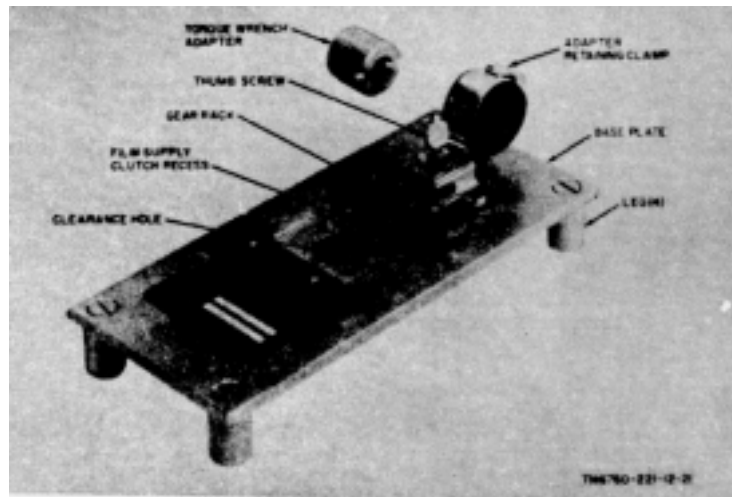

Figure 21. Use of torque fixture.
- (1) Remove the magazine cover assembly and film spools from the camera (TM 11-6720-207-10).
- (2) Remove the torque wrench adapter (fig. 21) from the adapter retaining clamp by loosening the thumbscrew, and install it on the square drive of the torque wrench (not shown).
- (3) Slip the keyed end of the torque wrench adapter onto the keyed pivot of the film supply clutch assembly. Check for 20 to 30 inch ounces of torque in either direction.